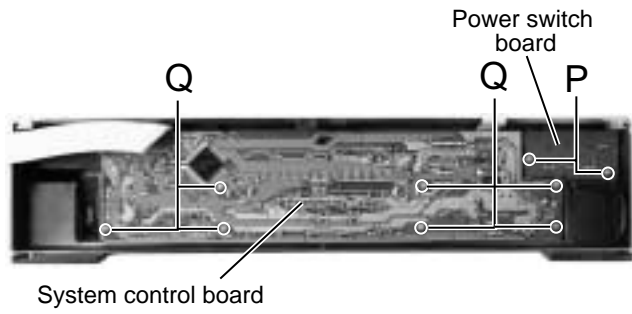

Fig.14
■ **Removing the system control board / power switch board (See Fig.14)**